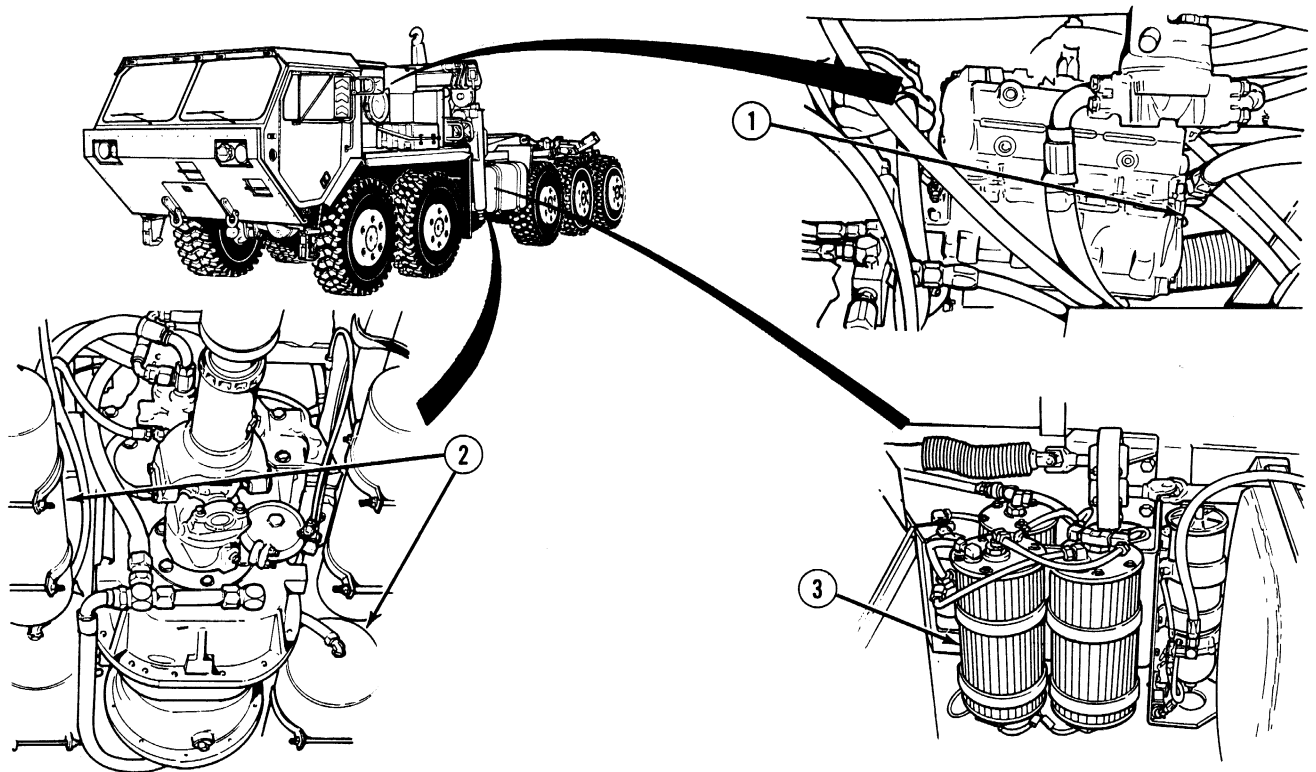

**Figure 1-15. Instrument System**
**f. Instruments.** The instrument system (Figure 1-15) includes all gages that give the operator information. The speedometer (1) receives signals from a sending unit mounted on the transfer case. Tachometer (2) input is provided from the DDEC controller. The fuel gage (3), oil pressure gage (4), water temperature gage (5) and transmission oil temperature gage (6) all receive electrical signals from sending units. These sending units monitor fluid level, pressure and temperature and send this information to the gages.
**g. Warning Lights and Buzzers.** The warning lights (7) and buzzers (8) in the cab are activated by sensors located in different systems. These include low air pressure, low engine oil pressure, low hydraulic oil level and high water temperature. When one or more of these sensors are activated, they energize the proper light and/or buzzer, informing the operator of a problem.